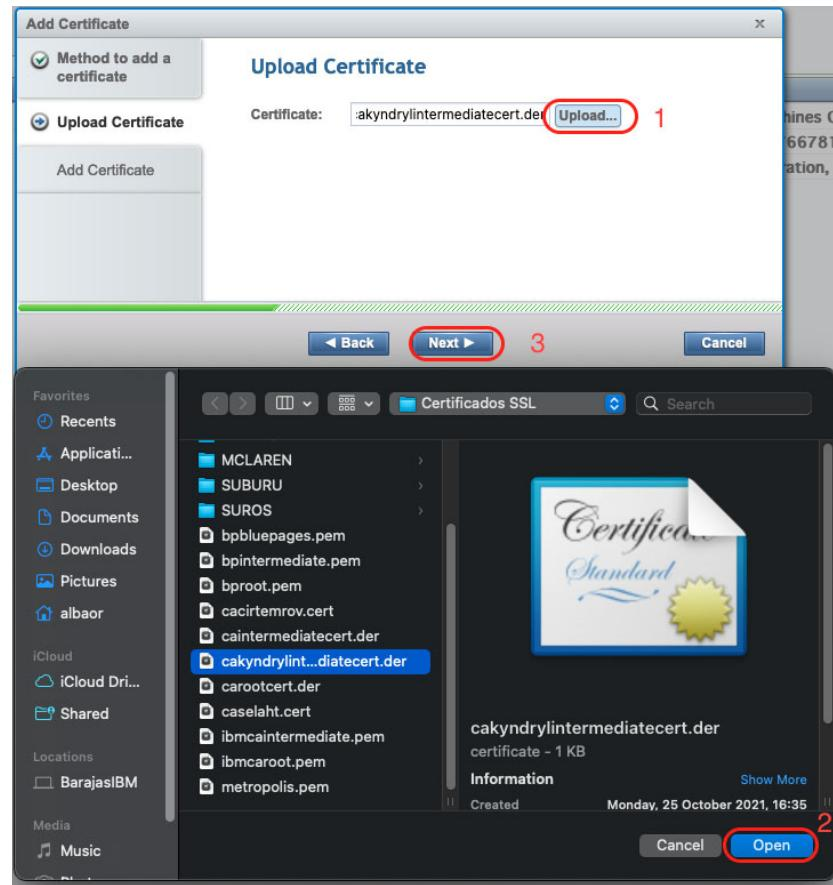

Figure J-6 Selection of SSL certificate file for manual upload
3. Click **Upload** to open a file manager to select the certificate file to be uploaded from your local workstation (the file manager tool that is used depends on your local operating system), as shown in Figure J-6 on page 1049. This file can be a copy of the EKM-PCert or one or more public certificates from the CA chain of trust. Click **Next** when you are ready to upload the certificate file.